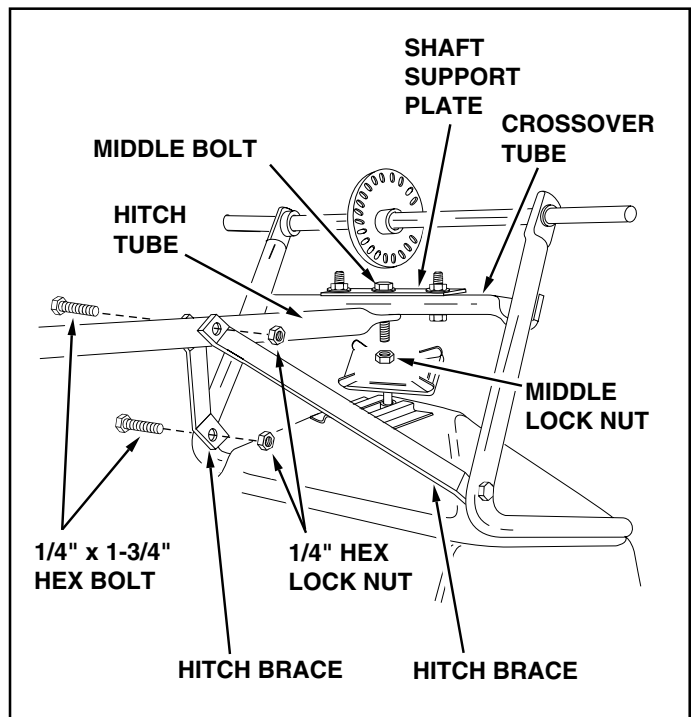

FIGURE 2
2. Assemble the two hitch braces to the inside of the hopper frame, one on each side, using two 1/4" x 1-3/4" hex bolts and two 1/4" hex lock nuts. **DO NOT TIGHTEN YET.** See figure 2.
3. Remove the lock nut from the middle bolt in the crossover tube and shaft support plate. Leave the bolt in place. See figure 2.
4. Assemble the short end of the hitch tube onto the middle bolt and secure it with the same lock nut you removed. **DO NOT TIGHTEN YET.** See figure 2.
5. Assemble the two hitch braces to the hitch tube using a 1/4" x 1-3/4" hex bolt and a 1/4" hex lock nut. **DO NOT TIGHTEN YET.** See figure 2.